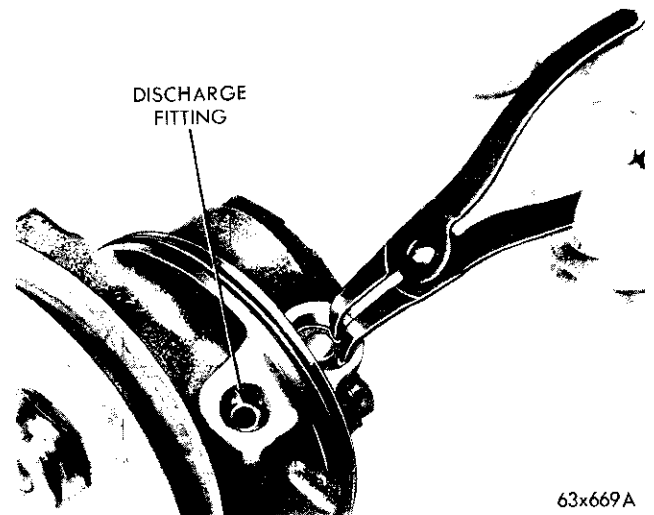

Fig. 10—Removing Flow Control Valve Retaining Ring
(1) With the pump reservoir removed, remove the flow control valve end plug retaining ring and end plug that is nearest the discharge fitting on the pump (Fig. 10).
(2) Depress the control valve against spring pressure and allow it to spring back. If the spring is not broken, the valve should pop out of the bore to a point where it can be removed. If the valve should stick, **do not force it**, but repeat the spring back procedure several times.